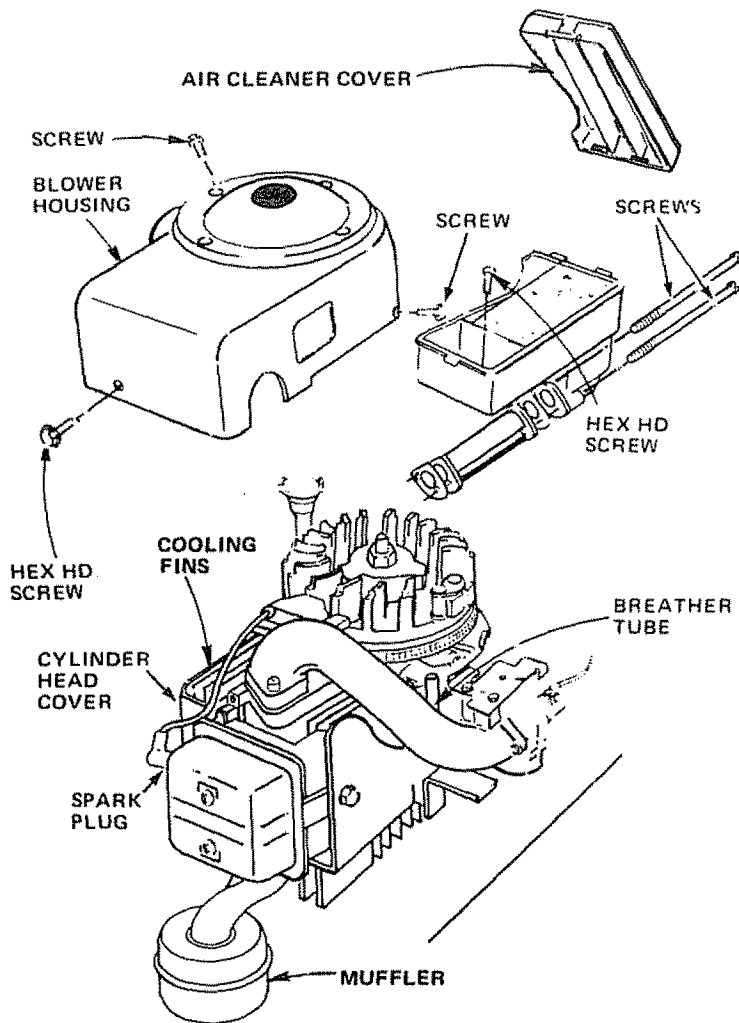

FIGURE 29
Several minutes after stopping Engine, check Engine Oil Level with Tractor on level ground. Remove and wipe Dipstick clean (Fig. 29), screw it in tight for a few seconds, remove slowly and read Oil level. If necessary, add Oil until "FULL" mark is reached. DO NOT OVERFILL.
- a. Snap Cover off Air Cleaner (Fig. 29). Remove Hex Head Screw from inside Air Cleaner. Remove two Slotted Head Screws from rear of Air Cleaner. Pull Air Cleaner off.
NOTE: PRESS BREATHER TUBE INTO BOTTOM OF AIR CLEANER (FIG. 29).